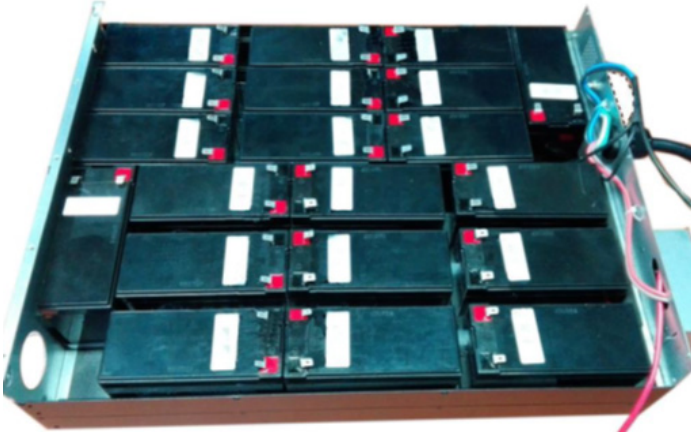

Fig 2-2
2. Put the battery into the chassis refer to Fig 2-2: